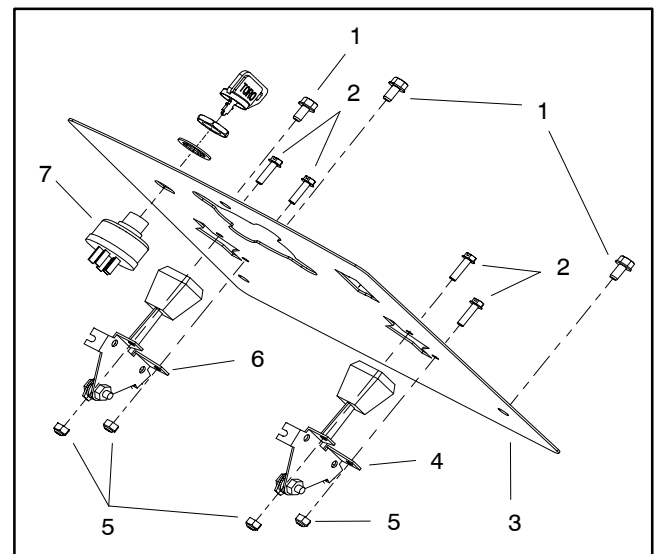

Figure 8
4. Remove three (3) washer head screws that retain dash panel to fuel tank (Fig. 8). Carefully position panel away from fuel tank.
4. Position panel to fuel tank and secure with three (3) washer head screws (Fig. 8).